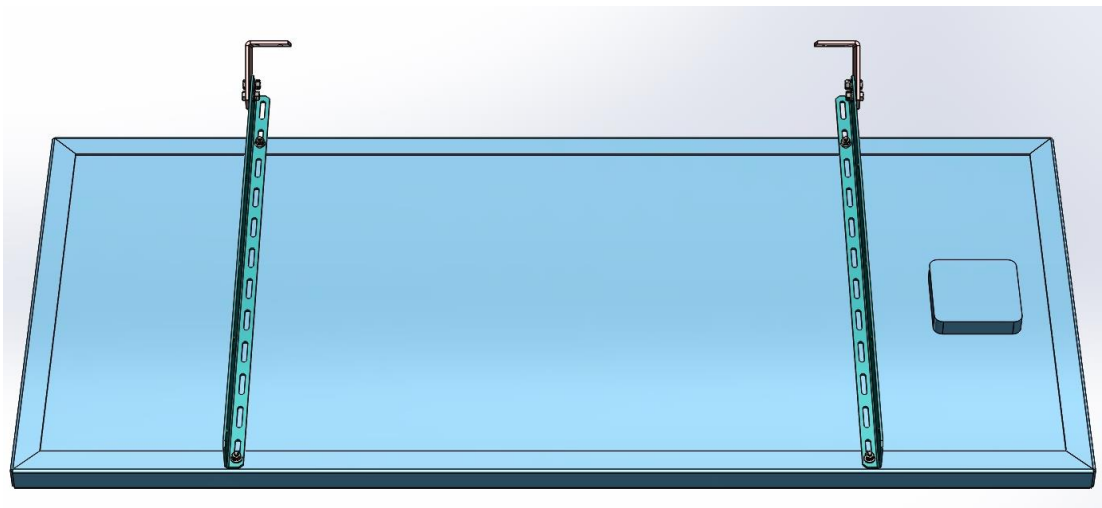

Figure 5. Orientation and position of clips relative to the solar panel
- Attach the clips to the rails so that the flanged end containing the slots on the clips are facing the center of the module as shown in **Figure 5**.